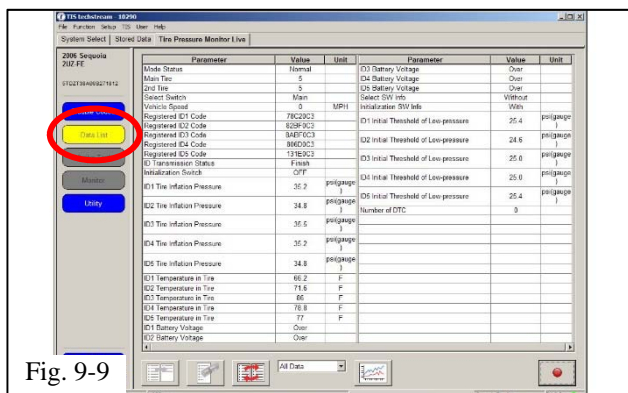

Fig. 9-9
- (l) Select “DATA LIST” to view and confirm the TPMS ID numbers have been correctly registered (Fig. 9-9).